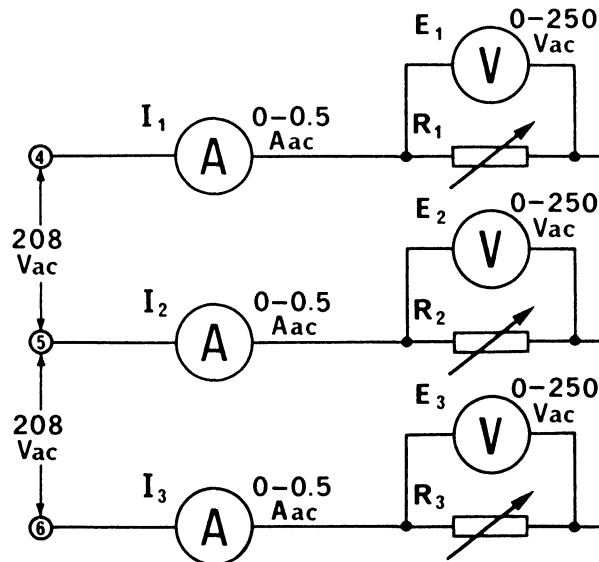

Figure 45-2.
- 5. a. Using your Resistive Load, AC Ammeter and AC Voltmeter connect the WYE circuit shown in Figure 45-2. Use a separate resistance section for each of the loads R_1 , R_2 and R_3 . Do not connect the neutral of the resistance module to the neutral of the power supply.